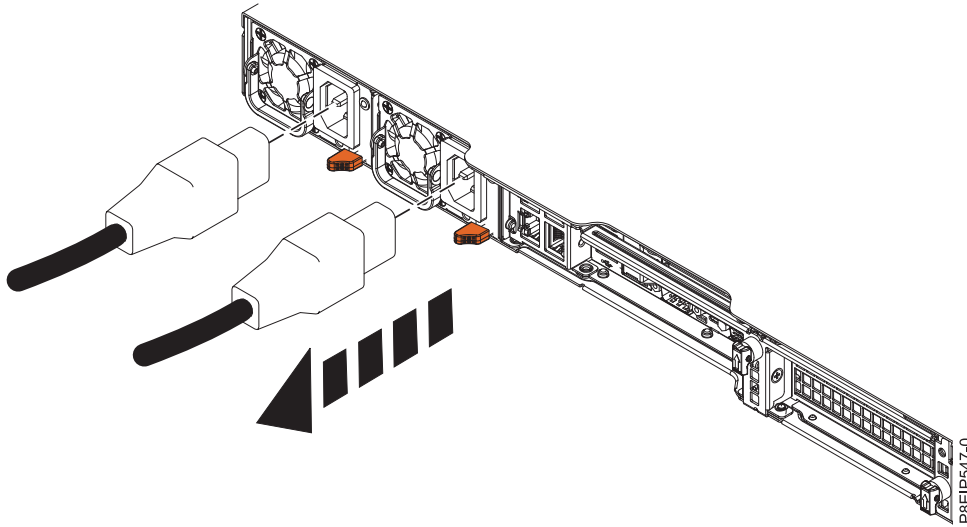

Figure 69. Removing the power cords from the system
2. Label and disconnect the power cords from the system unit as shown in Figure 69 on page 108.